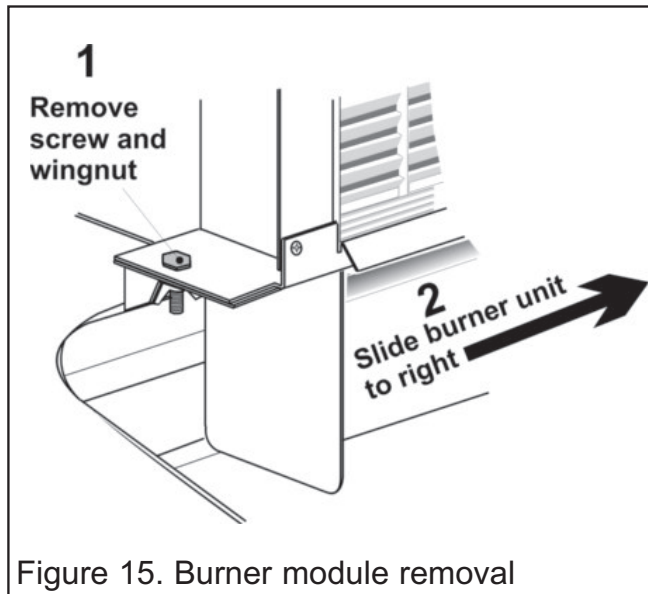

Figure 15. Burner module removal
4. Detach the left end of the burner module from the radiant box by removing one screw and a wing nut (See figure 15).
5. Carefully slide the burner module to the right to free it from the right side of the radiant box (See figure 15).